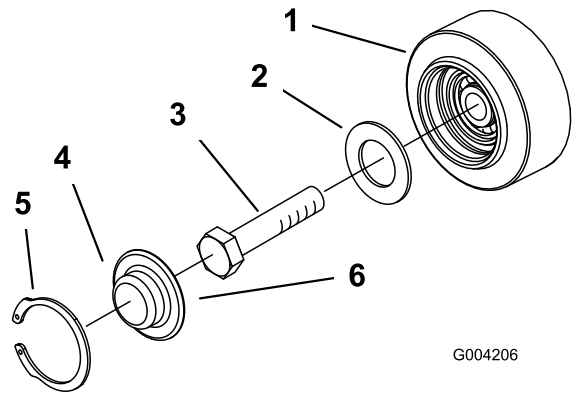

Figure 45
4. Check the grease under the cap and around the gasket (Figure 45). If it is dirty, gritty, or depleted, clean out all of the grease, replace the gasket, and add new grease.
6. Place the greased road wheel cap over the bolt head (Figure 45).
7. Secure the road wheel cap with the snap ring (Figure 45).
3. Remove the snap ring and cap from a road wheel (Figure 45).